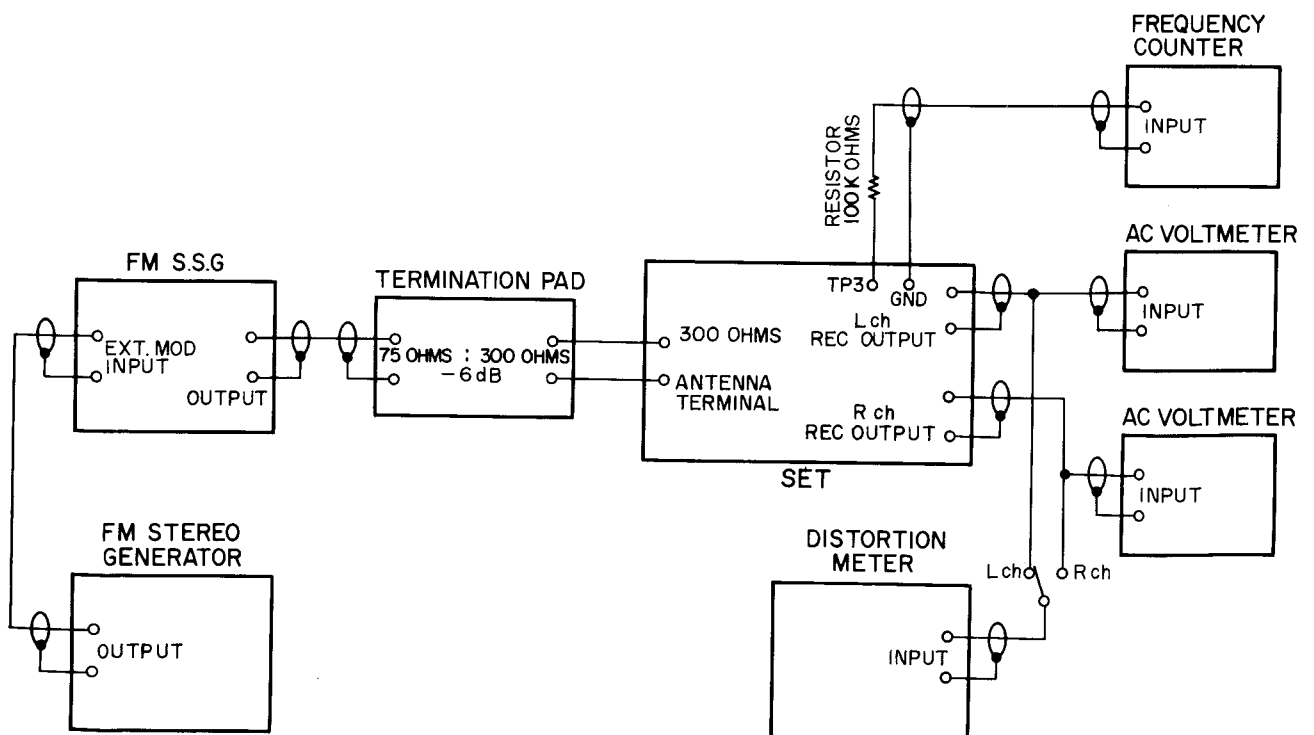

Fig. 8 Instrument Connections
4. When the specified sensitivity of 6 dB cannot be obtained at the two frequency points, 88 (78) MHz and 108 (88) MHz, repeat the adjustment as described in Step 9.
6. When connecting a Frequency Counter, connect from TP via a 100 kohms resistor. (Refer to Fig. 8)